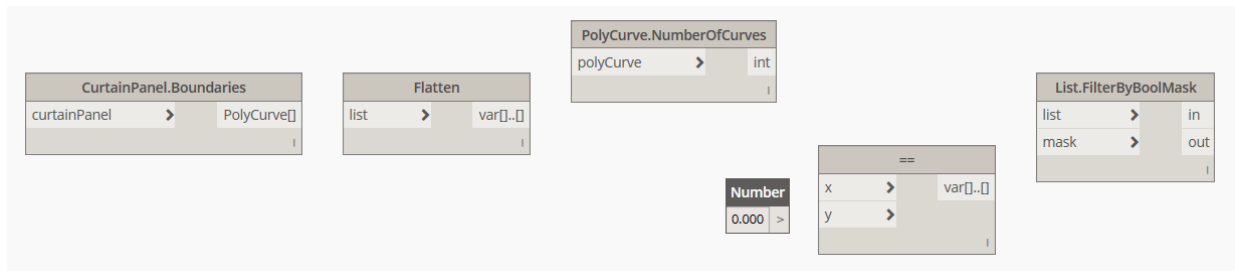

Figure 70
15. Position the nodes as shown in Figure 70.